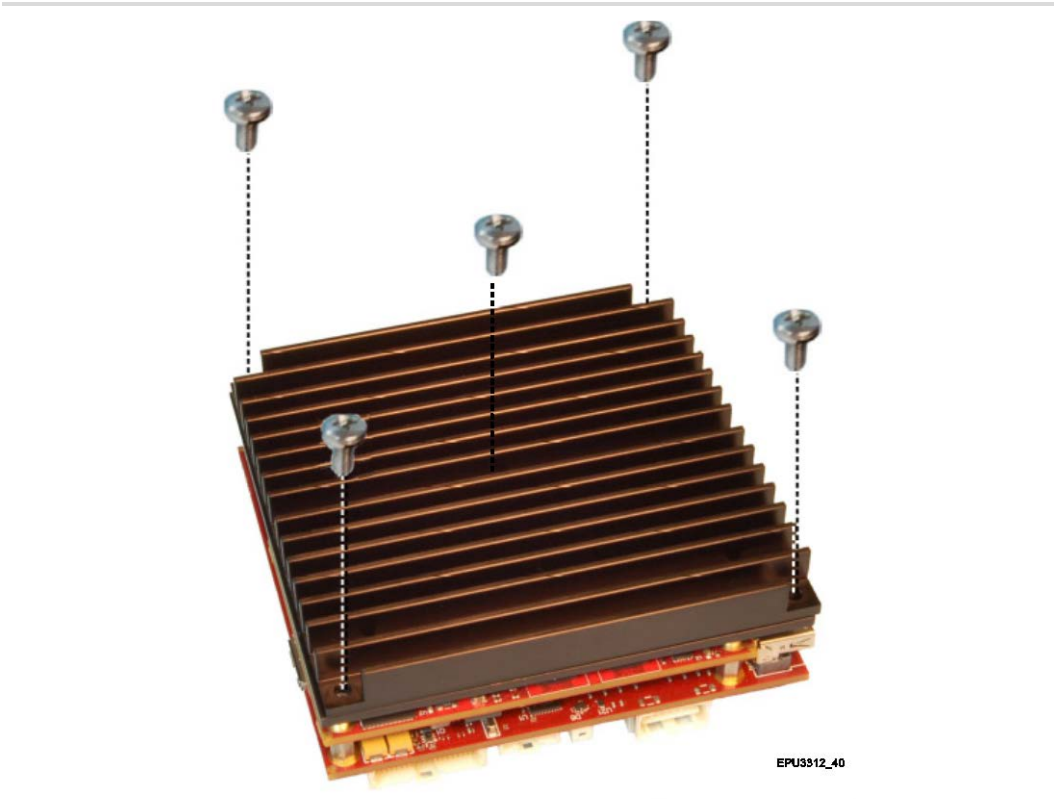

Figure 43. Installing the Passive Heat Sink
- Using Figure 43 as a guide, align the five mounting holes of the heat sink with the heat plate.